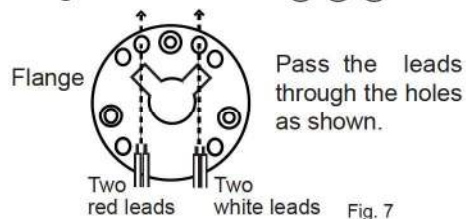

Fig. 7
10. Bend the lead wire as figure below, and pass two red leads and two white leads through the holes as shown in Fig. 7. Secure a heating element to the flange with the screws (5) (6) (7).